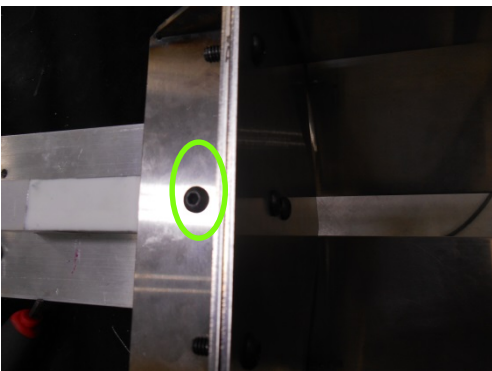

Fig 3
- Install all 3 bolts and tighten evenly. Use caution not to overtighten into the aluminum load cell. (Fig 3 & 4)